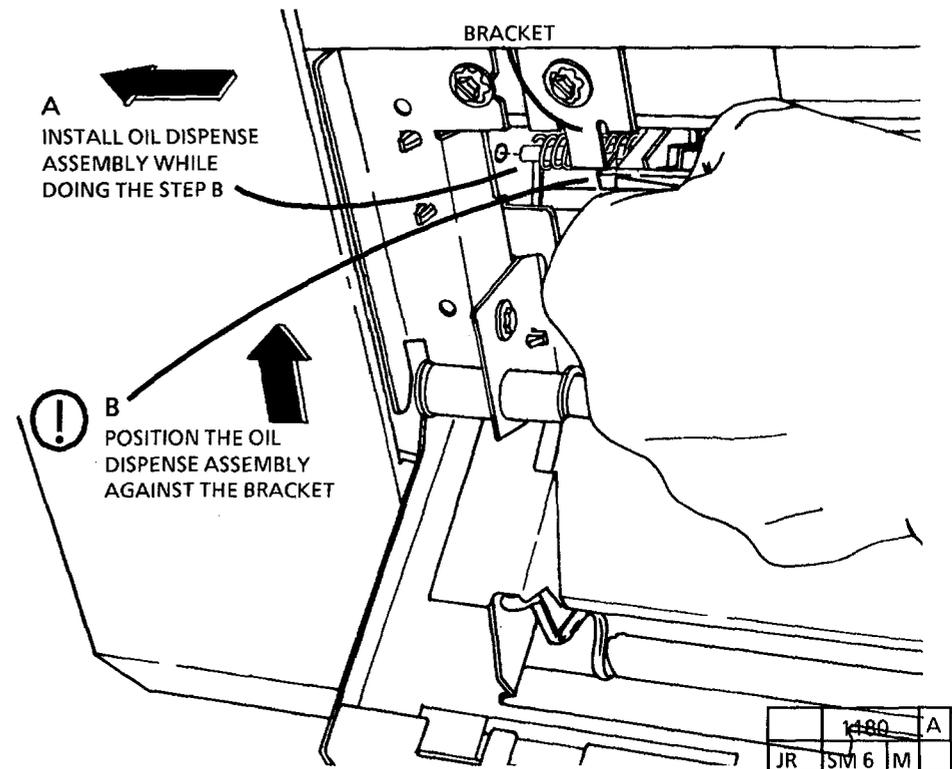

Figure 14. Installing the Oil Dispense Assembly
24. (FIGURE 14): INSTALL THE LEFT SIDE OF THE OIL DISPENSE ASSEMBLY.
! STEP 24 B: To avoid damage to the stripper fingers and the fuser heat roll, ensure that the oil dispense assembly is kept positioned up against the bracket as shown in Figure 14. Keep the oil dispense assembly as close to the fuser roll without touching the roll while installing the assembly.